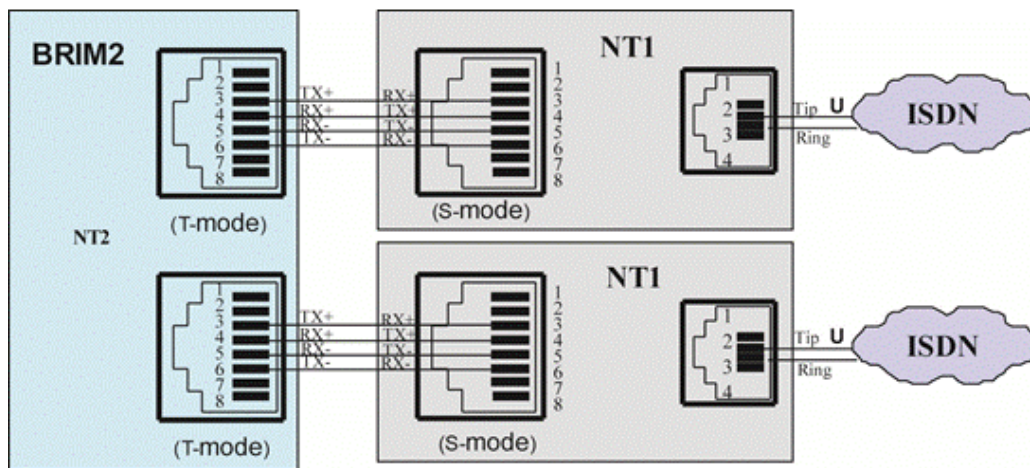
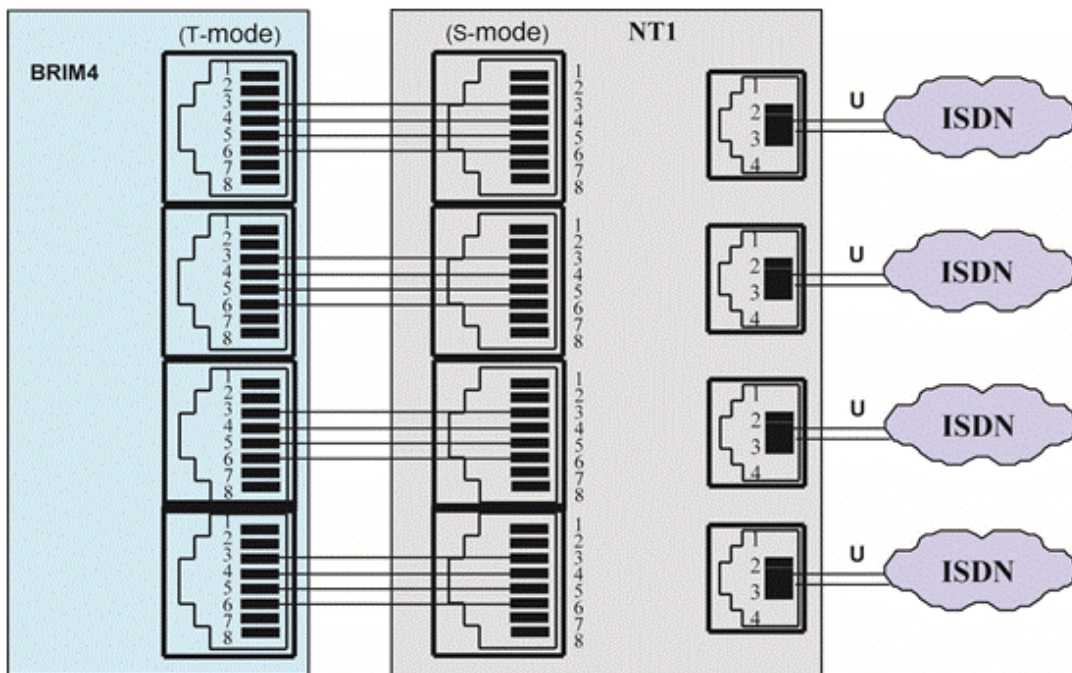

Figure 6.5-1 BRIM2 BRI Line Connector Configuration
Figure 6.5-2 BRIM4 BRI Line Connector Configuration
On the rear are two (2) or four (4) RJ-45 connectors terminated to the BRI Line interface circuits. These connectors should be wired to the telephone company termination point (“T” Mode). The connector pin assignments for the RJ-45 type jacks on the BRIM2 and BRIM4 are shown in Figure 6.5-1 and Figure 6.5-2, respectively.